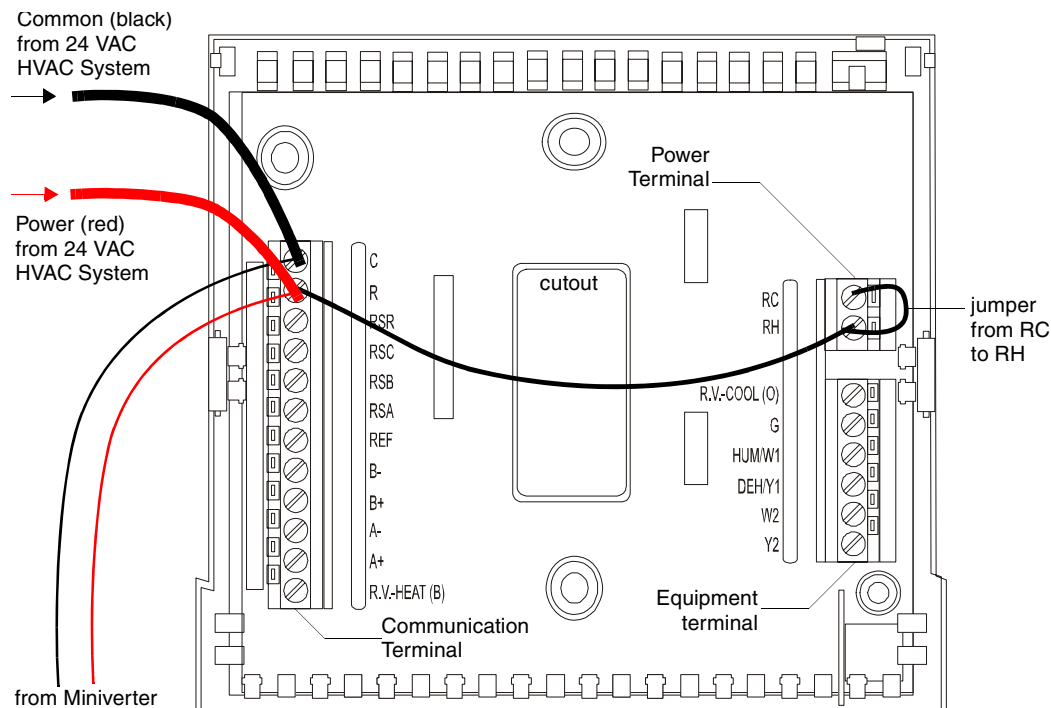

FIG. 5 ViewStat base with Communication, Power and Equipment terminals
2. Pull the stripped/tinned wires through the cutout in the center of the base (FIG. 5).
2. Pull the stripped/tinned wires through the cutout in the center of the base (FIG. 5)